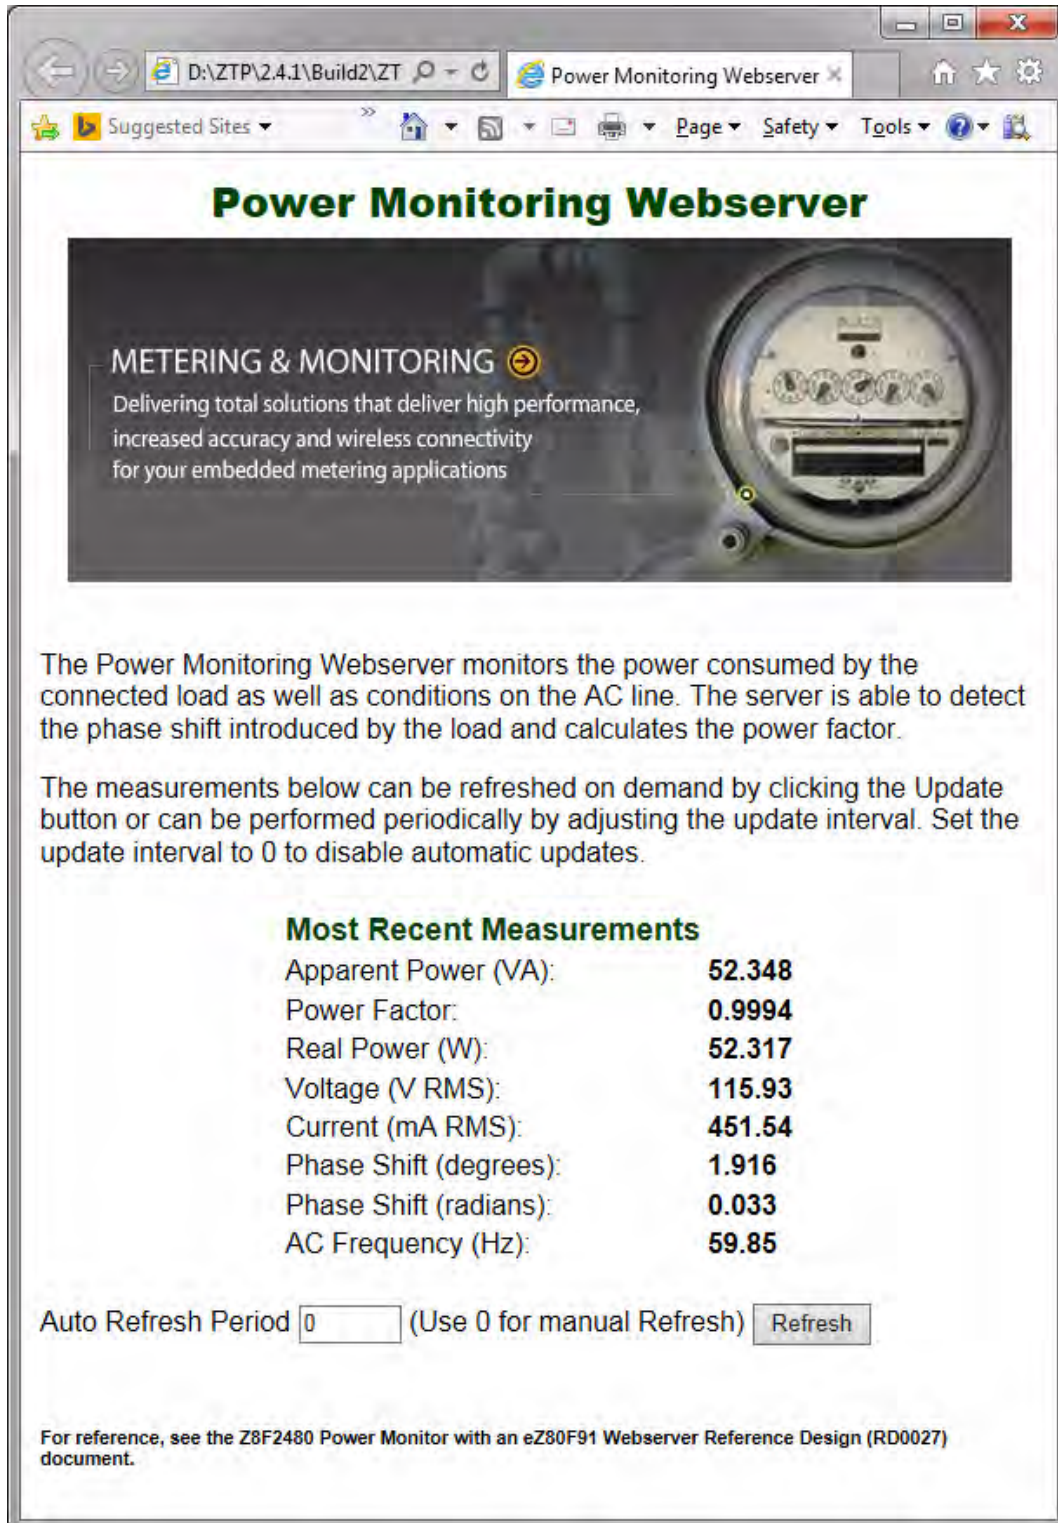

Figure 5. Monitored Measurements Displayed on a Web Page
The eZ80F91 Webserver Module contains a web page that displays the last set of AC measurements obtained by the Z8F2480 MCU. These measurements are transmitted over the optically-isolated I²C bus established through U4. The eZ80F91 Webserver Module is the I²C Master, and polls the Z8F2480 MCU (operating as the I²C slave) to obtain new measurement data. I²C requests can be initiated by this Master at any time; however, the Z8F2480 MCU only responds to requests for AC measurements when it is otherwise idle. If the Z8F2480 MCU is actively performing a measurement or updating an average, the I²C request remains pending until the active AC measurement operation/calculation completes. After obtaining the raw measurements, scripts on the web page convert the data into a human-readable format and display the results. A sample of the measurements displayed on the web page is shown in Figure 5.
► **Note:** When input exceeds recommended operating conditions, the web page shown in Figure 5 will display a warning message.